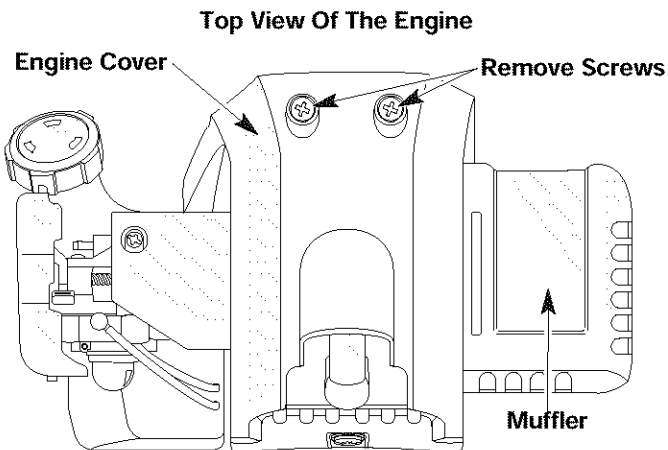

Fig. 37
2. Remove the two (2) screws on top of the engine cover with a Flat-head or T-20 Torx screwdriver (Fig. 37).
6. Remove the engine cover (Fig. 37).